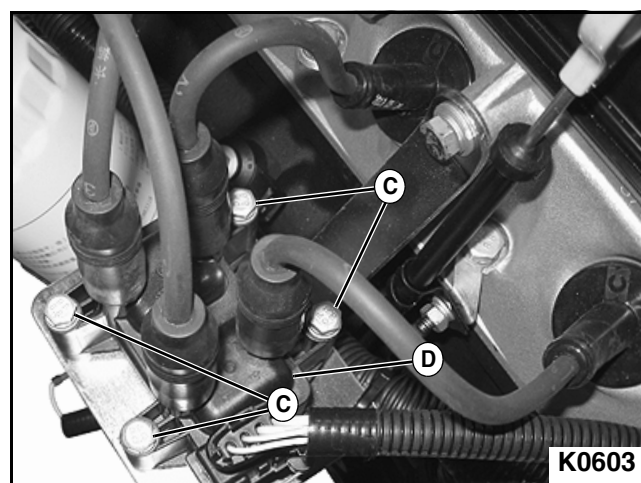

Figure 3-30
3. Remove four ignition coil mounting bolts, flat washers, lock washers, and nuts (C) from ignition coil (D). See Figure 3-30.